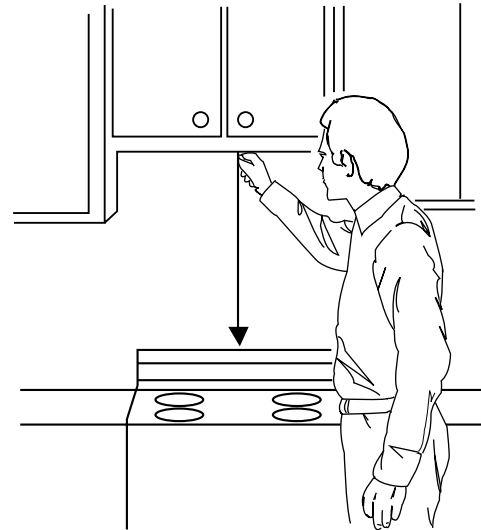

Figure 23
1. Using a plumb line and (metal) measuring tape, find and mark the vertical center line on the back wall, as in Figure 23.
NOTE: Be sure the minimum width is 30 inches and the distance from the top of the wall template to the range or counter top is at least 30 inches. See Figure 23.